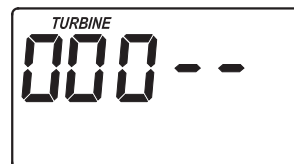

FIG. 26
1. Press and hold the SELECT button until the screen in Figure 26 is displayed.